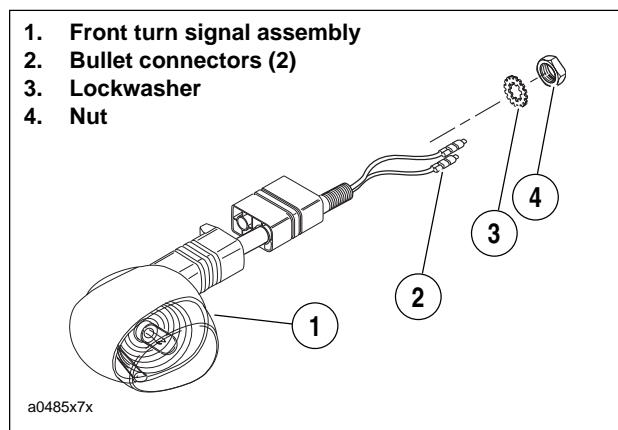

Figure 7-67. Front Turn Signals
3. See Figure 7-67. Remove nut and lockwasher.
1. See Figure 7-67. Install turn signal with lockwasher and nut. Tighten nut to 25-28 in-lbs (2.8-3.2 Nm).